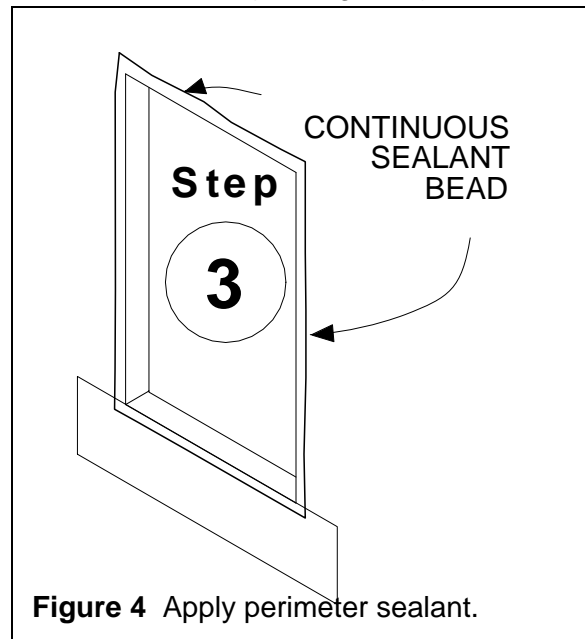

Figure 4 Apply perimeter sealant.
Step 3. Apply sealant around perimeter opening or to backside of window fin at top, sides, and bottom (see Figure 4).